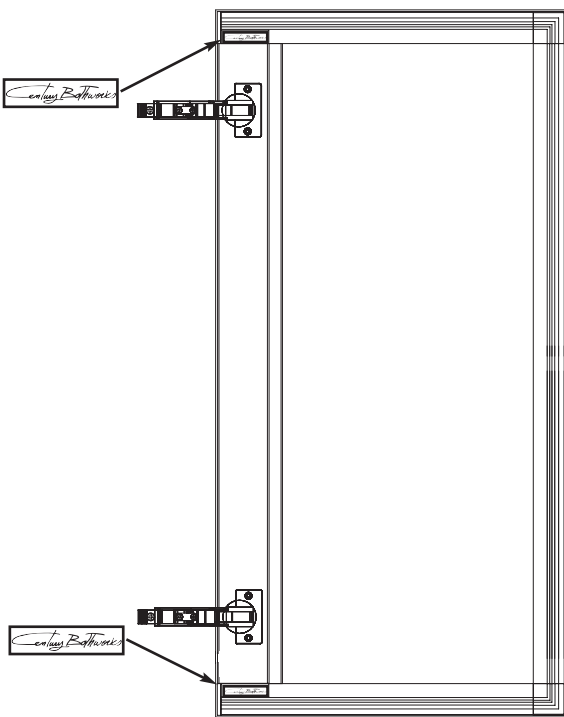

FIG 19
1. After door and cabinet are installed, install name plates by peeling protective plastic from door and back of nameplate, then placing nameplate in proper location (Fig 19)